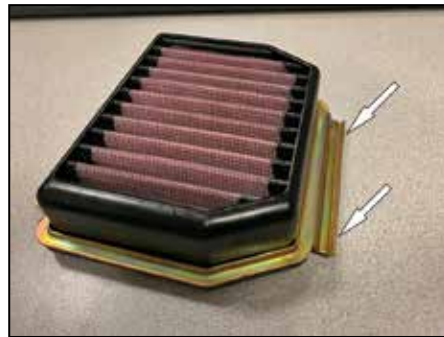

Fig. 2
3. Slide the rail on the K&N® metal frame with filter into the air box slots. Fig. 2, 3 & 4